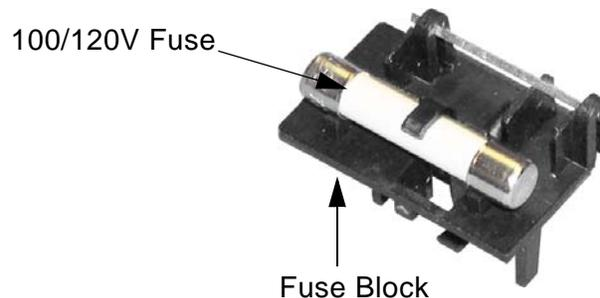

Figure 92. 100/120V Fuse Installation
- 2 Invert the fuse block and install the single 100/120V fuse into place, as shown in Figure 92.